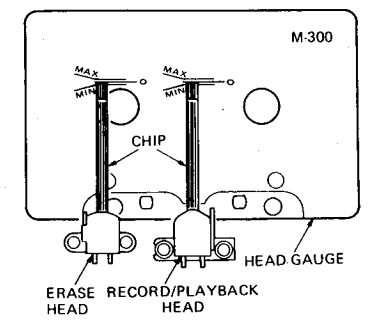

Fig. 2
- b) Set the unit in the playback mode and place the adjustment chip on the head gauge as shown in the Fig. 2.